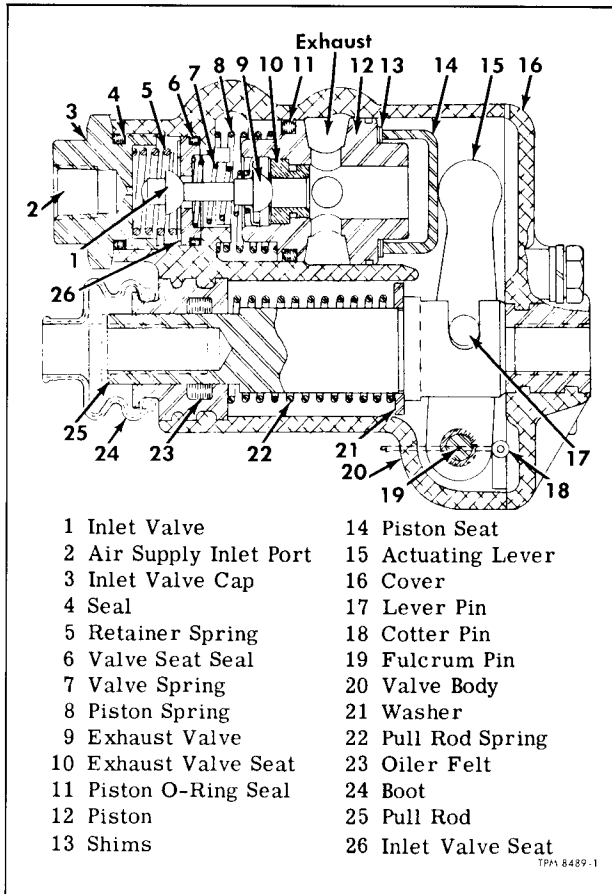

Figure 9—Air Control Valve
6. Remove boot (24, fig. 9) used to seal out dust and moisture at rod (1).
Key numbers in text refer to figure 9 unless otherwise indicated.
1. Place dust boot (24, fig. 9) on valve body, then screw rods (1 and 3) into control valve. A lock nut must be in place on rod (3) which is installed in the cover end of the valve.